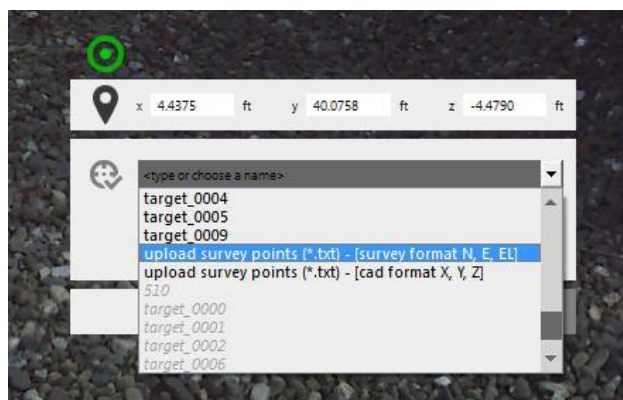

Figure 9: Select Survey Point and Import Control File
- Assign a point number by typing in a number or selecting from the drop-down menu (Figure 9)